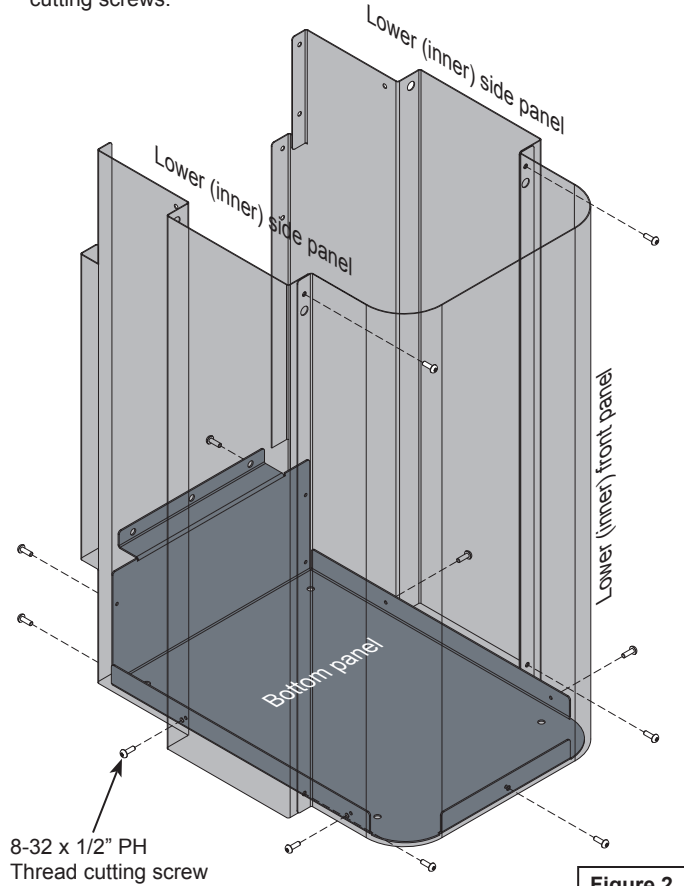

Figure 2
1. Attach each lower (inner) side panel (L & R) to the bottom panel with (8) 8-32 x 1/2" PH thread-cutting screws. **Figure 2.**
2. Attach the lower (inner) front panel with (5) 8-32 x 1/2" PH thread-cutting screws.